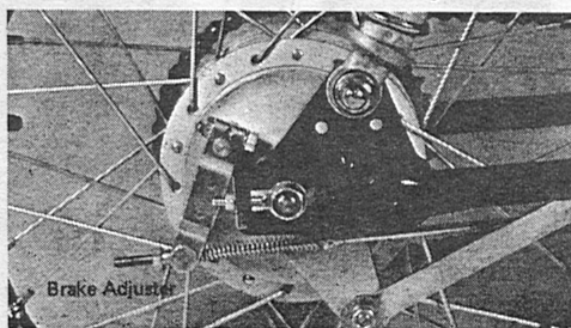

Fig. 49
2. To adjust the rear brake turn the brake adjuster nut clockwise to tighten the brake or counterclockwise to loosen it. (Figure 49)